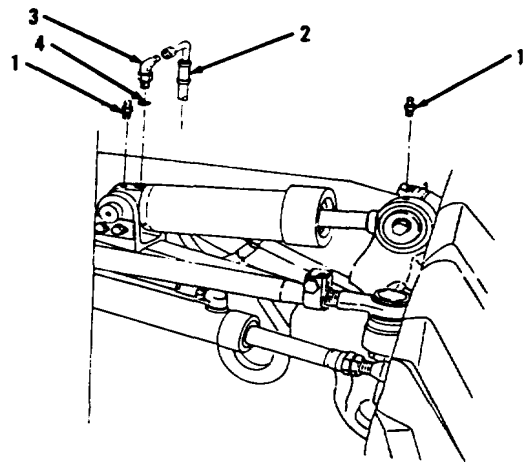

Figure 5-106.
1. Remove two fittings (1, Figure 5-106) from right side of front axle on vehicle.